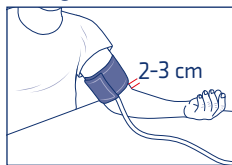

Figure 1
- Place the cuff around your left upper arm. The lower edge of the cuff should be 2-3 cm above the elbow (Figure 1). The artery marking on the cuff (ARTERY) must be